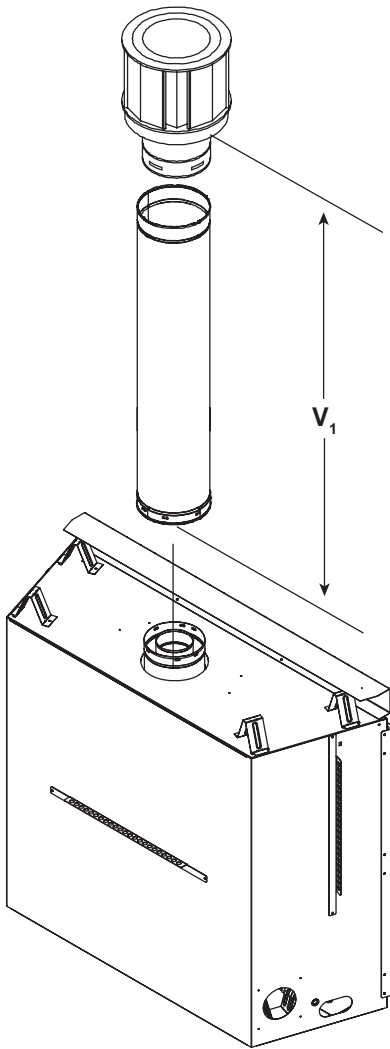

Figure 7.8 Vertical Vent Maximum
1. Locate the two pilot holes located in the inside firebox heat shield as shown in Figure 7.8.